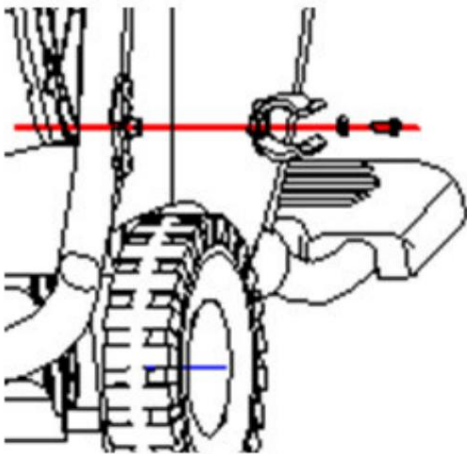

Fig. 4-2: Mounting the hose holder
2. Attach the hose holder to the designated plastic part on the handle using a screwdriver. (Fig. 4-2).